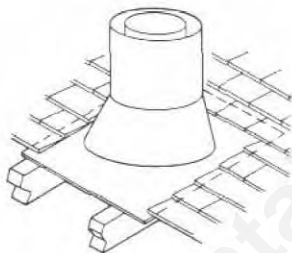

Figure 31
**Step 7.** Secure flashing by nailing along the perimeter into roof using 8d nails. If shingled roof, slide upper end and sides of roof flashing under shingles (trim if necessary), seal the top and both sides of the flashing to the roof with roof caulking. Cover nail heads with roof caulking (Figure 31).